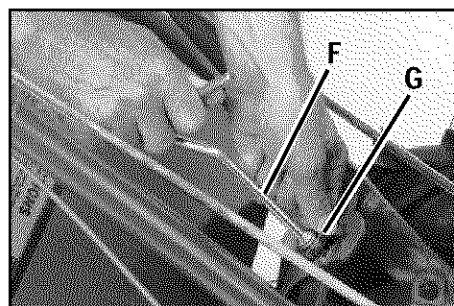

Figure 3-3: Adjusting handlebar height.
3. Loosen height adjustment handle (F, Figure 3-3) and pull keyed washer (G) free from slots in curved height adjustment bracket.